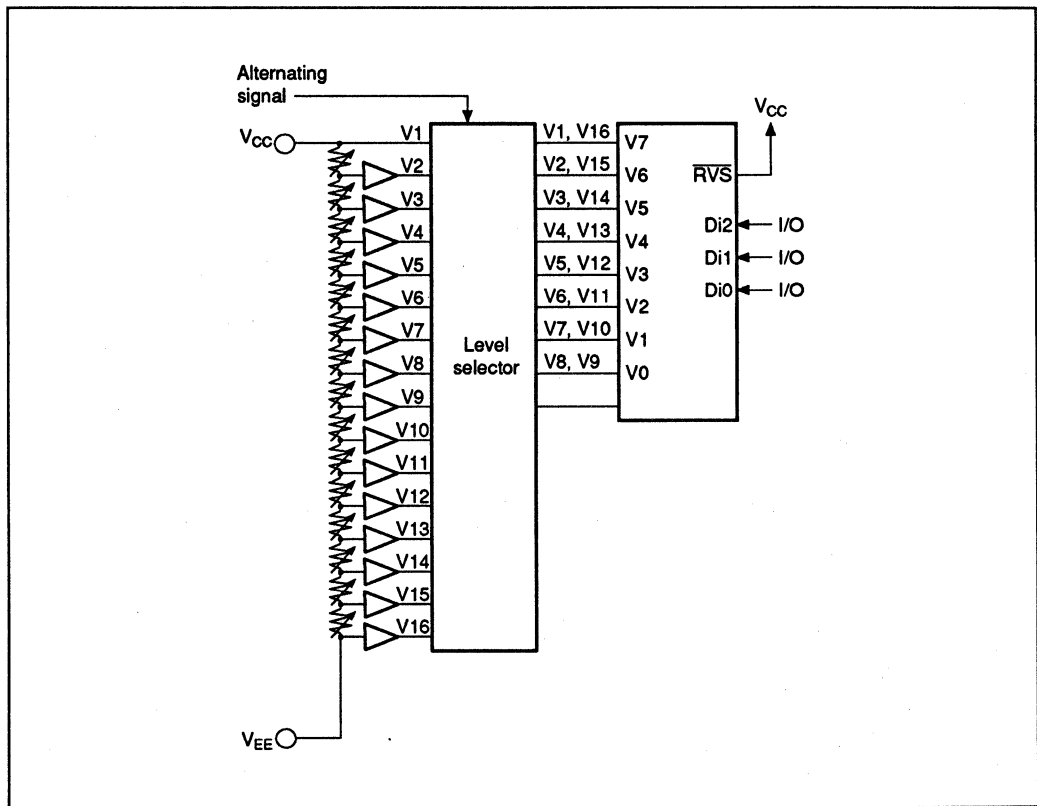
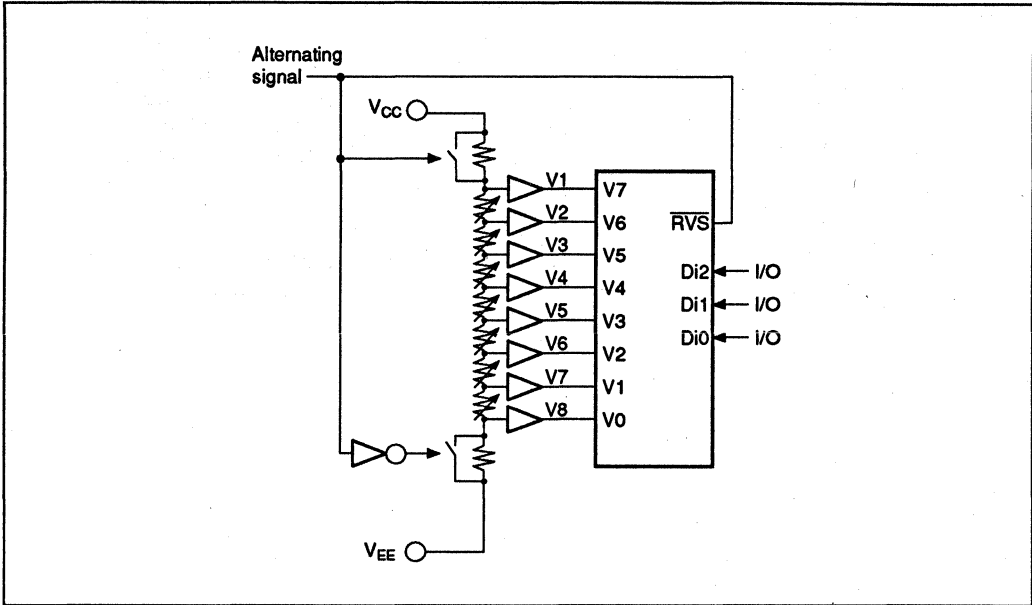
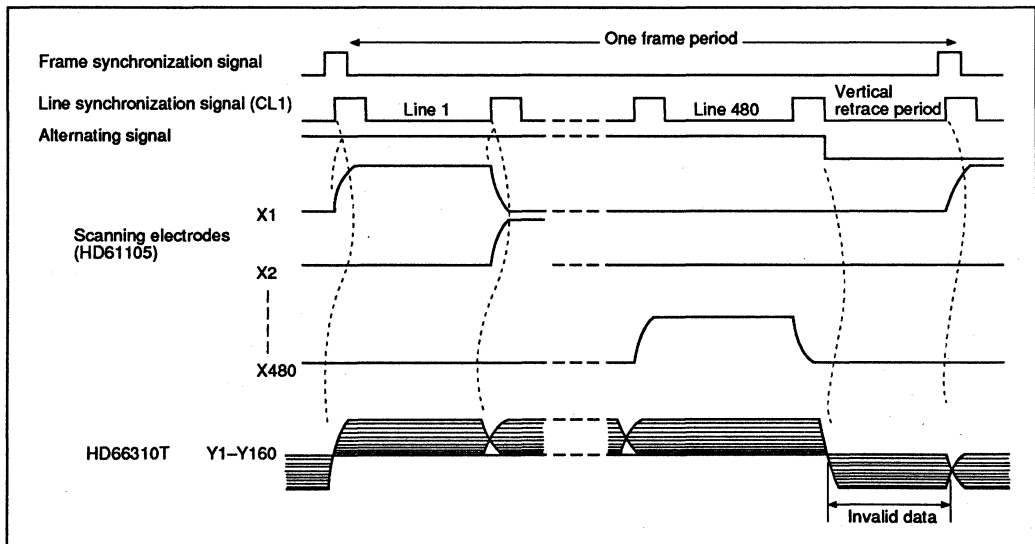

Figure 8 External Power Supply Example 1
Figure 9 External Power Supply Example 2
Figure 12 Vertical Retrace Period
Although the HD66310 has eight LCD driving voltage input levels, it can output 16 driving voltage levels using the level selector shown in figure 8, since the transfer gates of the output circuit are produced by the CMOS structure.
Figures 8 and 9 show the external power supply circuit when displaying 512 colors in the Triad
The circuit shown in figure 8 is the basic one used when displaying 512 colors in the Triad arrangement. However, the HD66310 can dispense with the level selector, as shown in figure 9, using the internal \overline{RVS} (output reverse) pin. See table 1 for detailed \overline{RVS} functions.
When using the \overline{RVS} pins to simplify the power source, as shown in figures 9 and 10, it is recommended to add a vertical retrace period, (a scanning period in which no scan electrode is selected) at the end of a frame scanning period, as shown in figure 12, for the following two reasons.
11. However, the power supply lines immediately reverses polarity after a transition of the \overline{RVS} signal, as shown in figures 9 and 10. Therefore, the HD66310 outputs invalid data during the last CL1 of a frame period.
- In the power supply circuits shown in figures 9 and 10, voltage temporarily becomes unstable just after the \overline{RVS} transition, causing the LCD display to become jumbled.